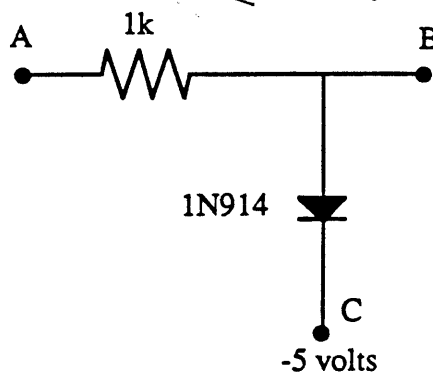
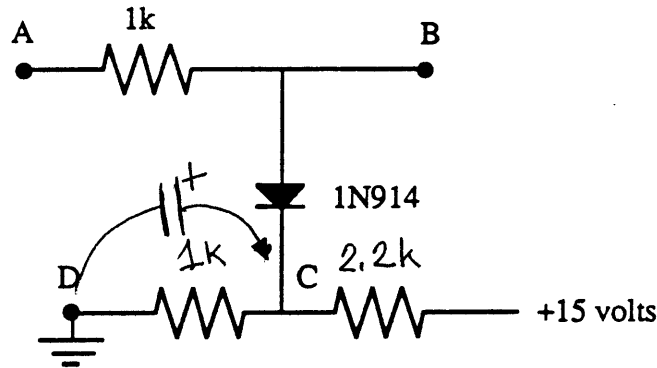

Figure 5.7 - ~~Rectifying differentiator~~ Voltage clamp.
Figure 5.8
- (1) Build the circuit shown in Figure 5.7.
- (2) Change the generator output to a 20V_{p-p} sine wave. You will use this setting for the rest of this part of the lab. Connect your generator output to point A. Note that the generator common is connected through the power supply to your circuit.
- (3) Connect your scope's CH1 input to point B and record the waveform you see in Table 5.13.
- (4) Modify the circuit to that shown in Figure 5.8.
7. What is the role of the ~~2.2~~k resistor in Figure 5.7? Explain the circuit operation. 1k